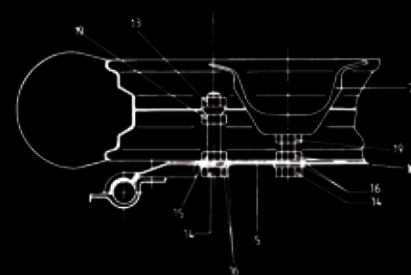

Fig. 6
A hexagon head screw M12 (fig. 6/14) is secured in place in the middle pre-punched hole on the connection bracket with two washers (fig. 6/16) and a hexagon nut (fig. 6/18). Depending on the diameter of the hole of the wheel, a hexagon head screw M12 (fig. 6/14) is secured in place in the elongated hole of the connection bracket with two washers (fig. 6/16) and a hexagon nut (fig. 6/18).
The space between the wheel rim and the connection bracket (fig. 6/5) is also set with a self-locking nut (fig. 8/19). The spare wheel is tightened once in the middle with the taper clamping sleeve (fig. 6/7) and on the hole circle with the tapered nut (fig. 6/13).
N.B. Only tighten the tapered clamp and the tapered nut to the point where the spare wheel sits securely on the spare wheel holder. Excessive tightening can lead to damage to the wheel (pressure points). The two self-locking nuts (fig. 6/19), which are set in accordance with the height of the wheel rim, serve as a limit stop for the taper clamping sleeve (fig. 6/7) and tapered nut (fig. 6/13).